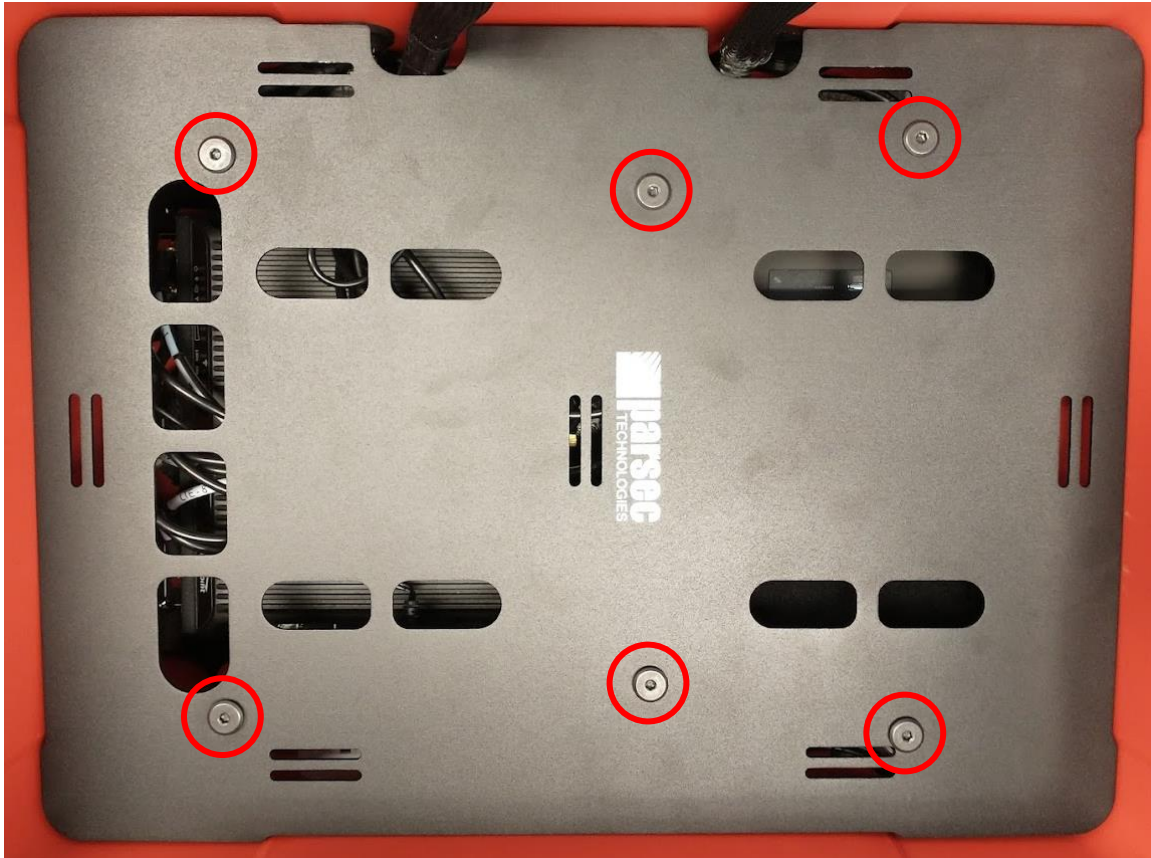

Figure 15: Fasten the cover plate to the case using binding barrels.
- B. Fasten the cover plate to the case using the six binding barrels you removed earlier, as shown in Figure 15.